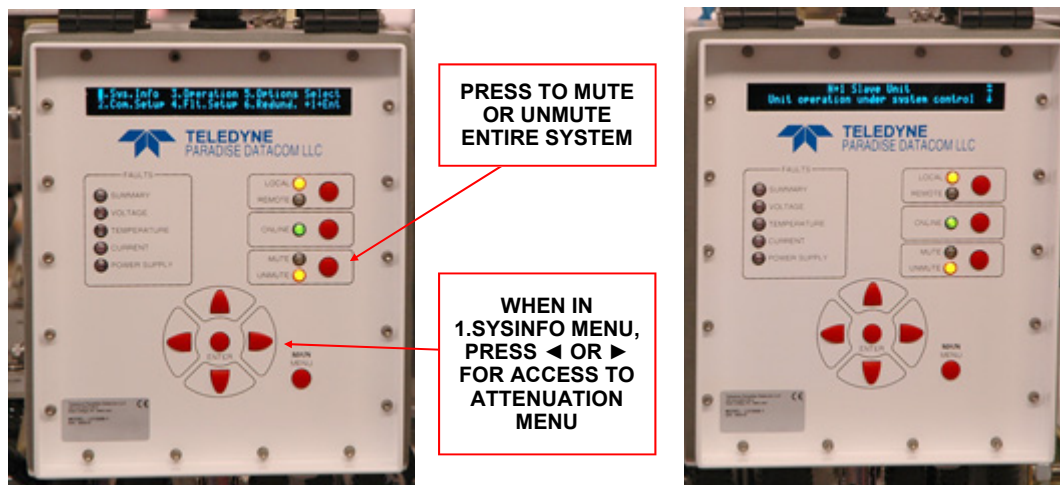

Figure 4-1: Outdoor SSPA Controllers (Master, left, and Slave, right)
An 8-way HPA system is comprised of two arrays of four (4) Compact Outdoor amplifiers (HPAs). A RF distribution box provides a single RF input, which is then split to each of the system amplifiers. This weatherproof enclosure also houses the system RF Power Detector module. The output of each Compact Outdoor amplifier in the array is phase combined to a single output. The 8-way system has two outdoor controllers in a master/slave configuration. Each controller is powered by an auxiliary DC output from four (4) of the HPAs. See **Figure 4-1**.